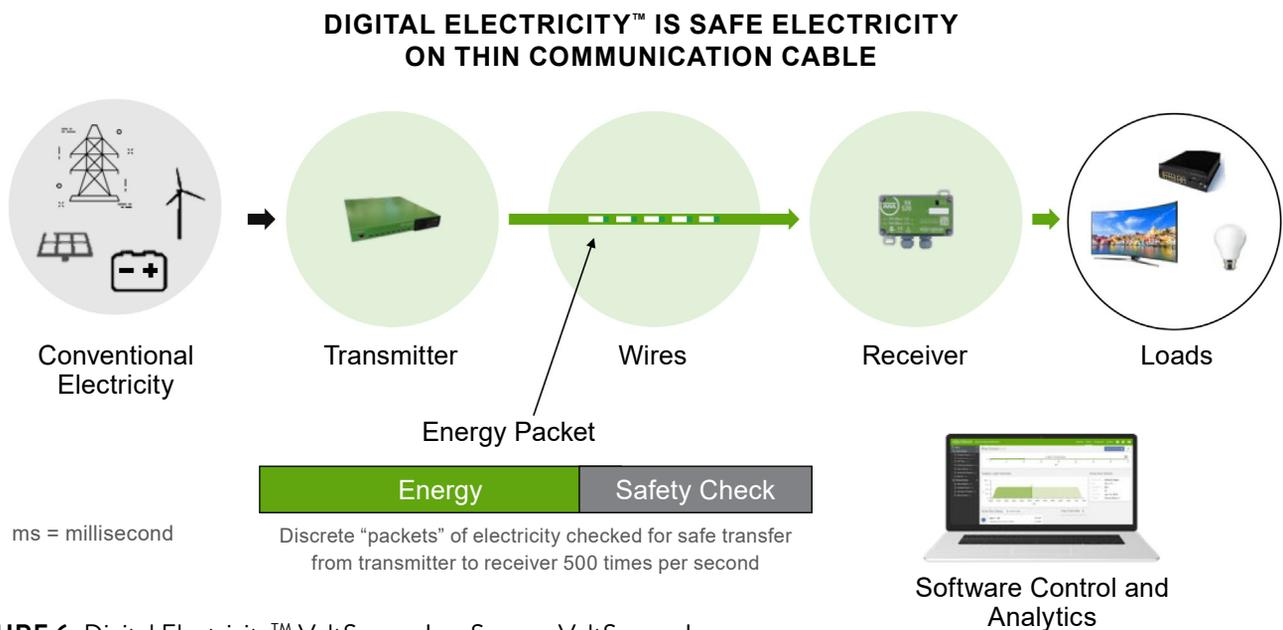

FIGURE 6: Digital Electricity™ VoltServer, Inc. Source: VoltServer, Inc.
In 2015 Digital Electricity™ (DE) was introduced by VoltServer™. Digital Electricity is the delivery of high-voltage DC power via packet energy transfer format between a transmitter and a receiver (Figure 6).